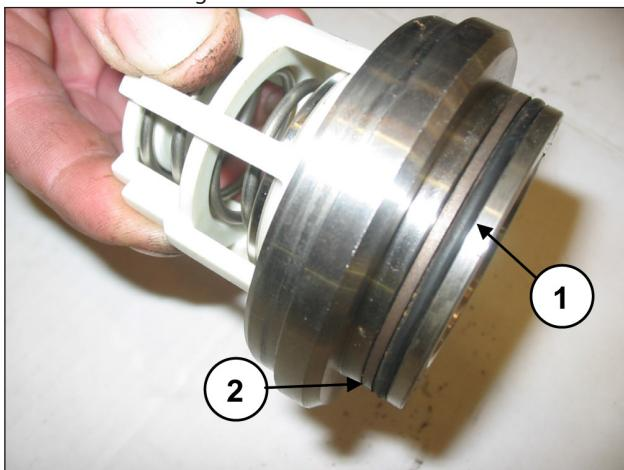

Fig. 123
Fit the O-ring, exploded view pos. 5 (pos. ①, Fig. 123) and back-up ring, exploded view pos. 15 (pos. ②, Fig. 123) on the outlet valve housing.